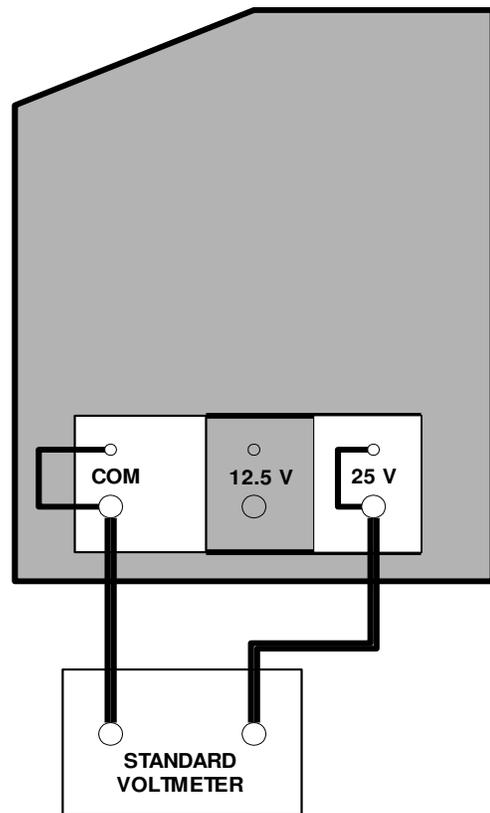

Figure 5-3. Voltmeter Calibration Set-up, 25 Volt Tap
3. Compare the Test Set Voltage (V) display with the standard voltmeter. If the two readings do not agree, adjust R3 on the A2 circuit card assembly until the Voltage (V) display matches the standard voltmeter display.
6. Connect the test equipment to the Test Set as shown in Figure 5-3. Energize the Test Set.